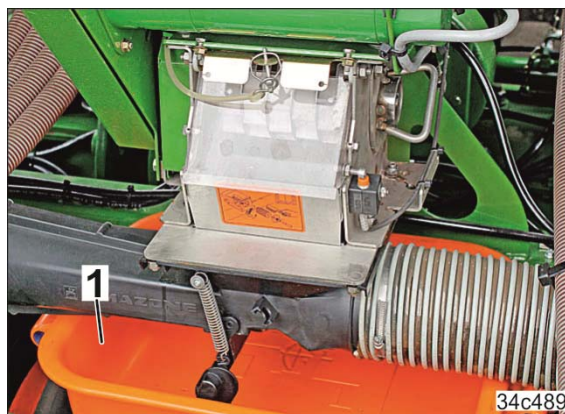

Fig. 177
- 6.1 Place the trough (Fig. 177/1) under the metering unit and open the injector sluice flap (see section 8.3, page 114).